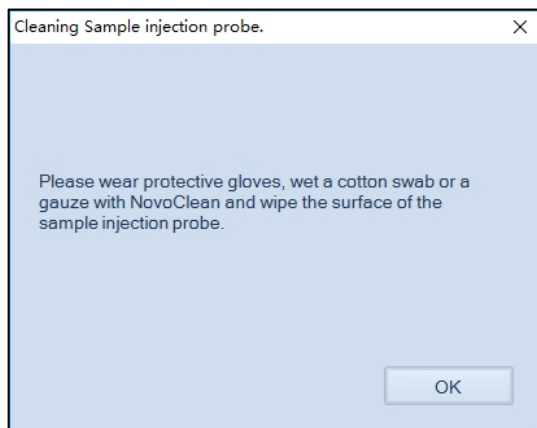

Figure 51. Software Message Instructing the Cleaning Procedures
- 5 Click **OK** button after cleaning. (Figure 51).